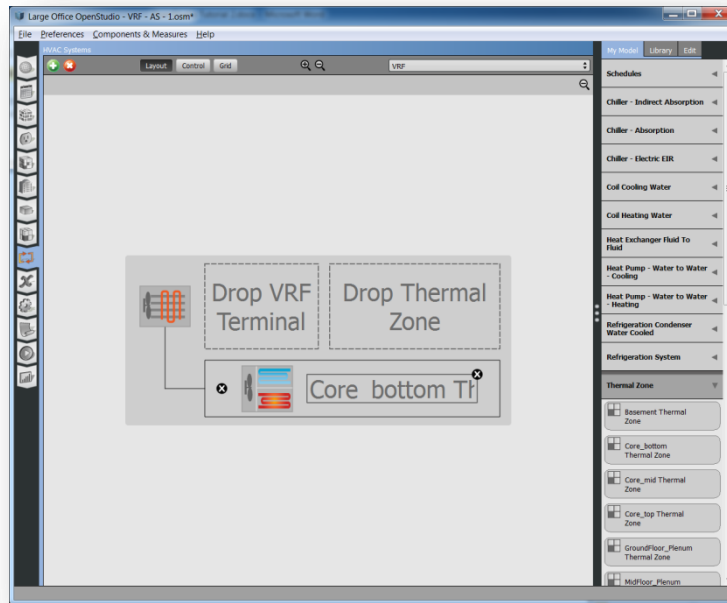

Figure 14: Detail Setup of a VRF system in OpenStudio
- (7) Click the zoom-in icon  to define detailed VRF systems including VRF Terminal units and thermal zones as shown in Figure 14.
- (8) Drag and drop the downloaded VRF Terminal unit from the right menu 'Library' to the 'Drop VRF Terminal' box.
- (9) Drag and drop a thermal zone from the 'Thermal Zone' under the right side tab 'My Model' to the 'Drop Thermal Zone' box.
- (10) When clicking outdoor units or indoor units in the VRF diagrams, the right panel menu 'Edit' displays, allowing modification of operation schedule and system specifications including capacities, flow rates, etc.
- (11) Go to the simulation tab, and perform a building energy simulation with the LG Multi V IV data.